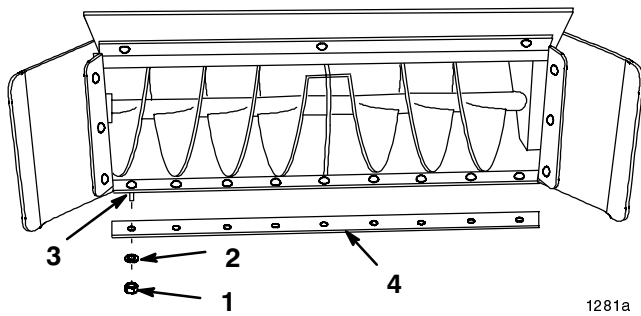

Figure 28
3. Remove nuts, washers, carriage bolts and scraper blade (Fig. 28).
4. Reverse scraper blade and install with previously removed hardware (Fig. 28).